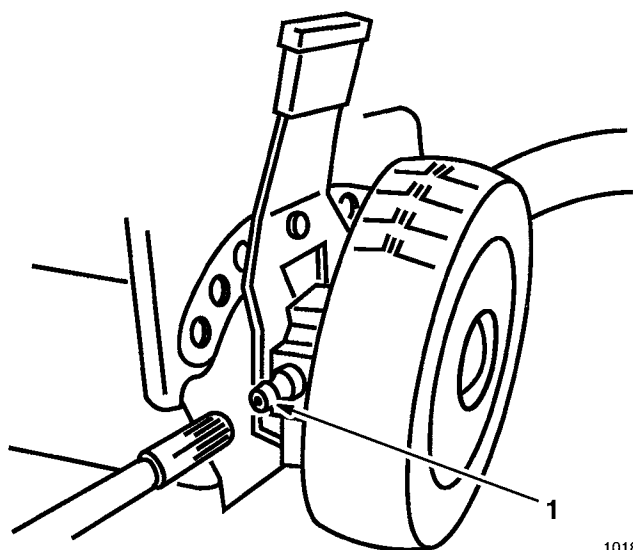

Figure 28
1. Wipe grease fittings on rear height-of-cut adjusters (Fig. 28) with a clean rag.